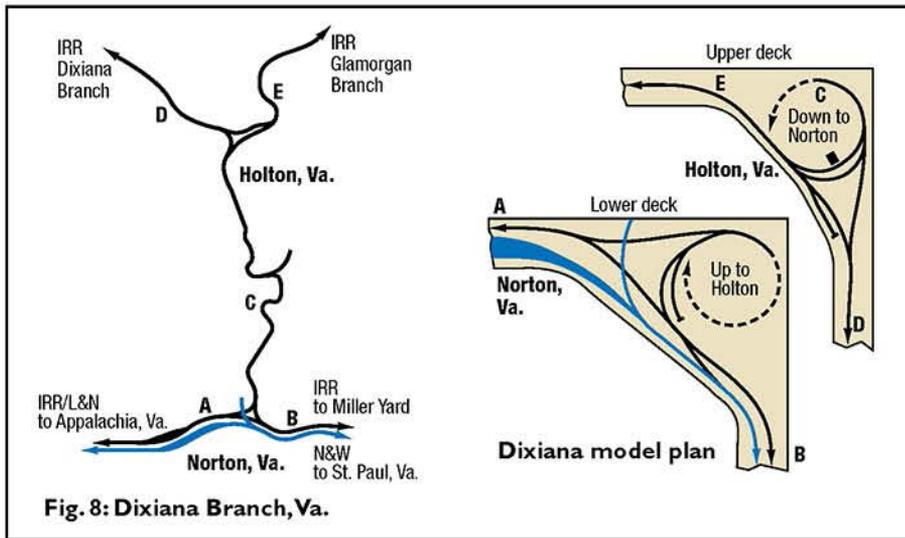

Fig. 8: Dixiana Branch, Va.
A good prototype with this arrangement is the Interstate RR's Dixiana/Glamorgan Branch out of Norton, Va. The branch leaves the main line via a wye at Norton and then splits about three miles north via the wye at Holton before going to large loaders at Dixiana and Glamorgan at the ends of the branches (fig. 8). The area between Norton and Holton (C) has a few small coal loaders, but these would need to be sacrificed to use this method. To model the other legs, two Method 1s (third-leg staging off the back) are stacked on top of one another.